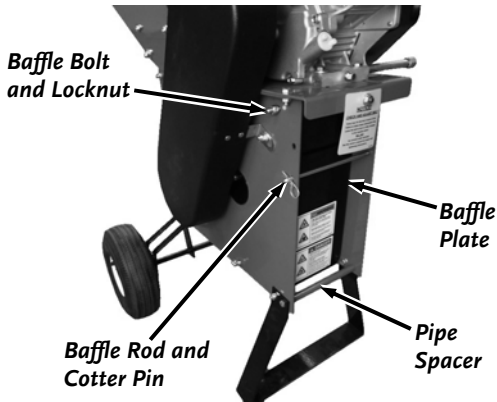

Figure 2
1. Using two 1/2" Wrenches, remove the Baffle Bolt and locknut that go through the top of the Baffle Plate (**Figure 2**).